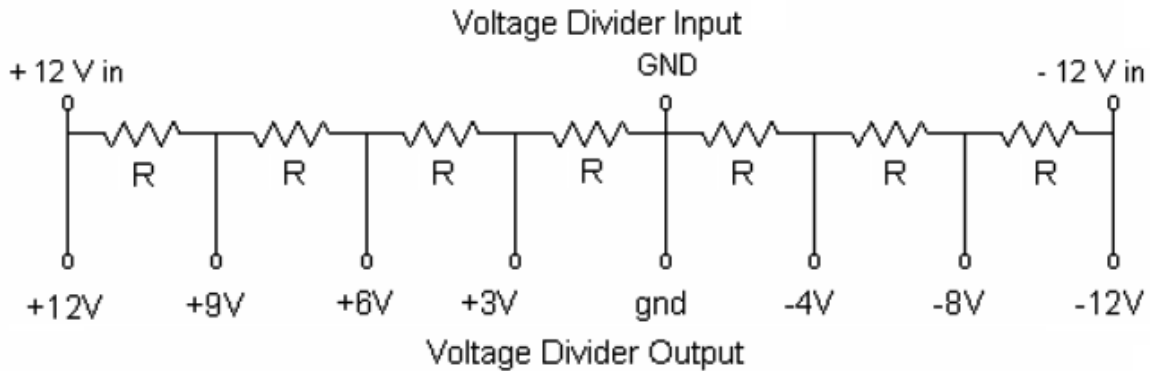

Figure 8-6 Voltage Divider Circuit
1. Leave the inverting amplifier on the right side of the protoboard and construct the voltage divider given in Figure 8-6 on the left side of your breadboard.